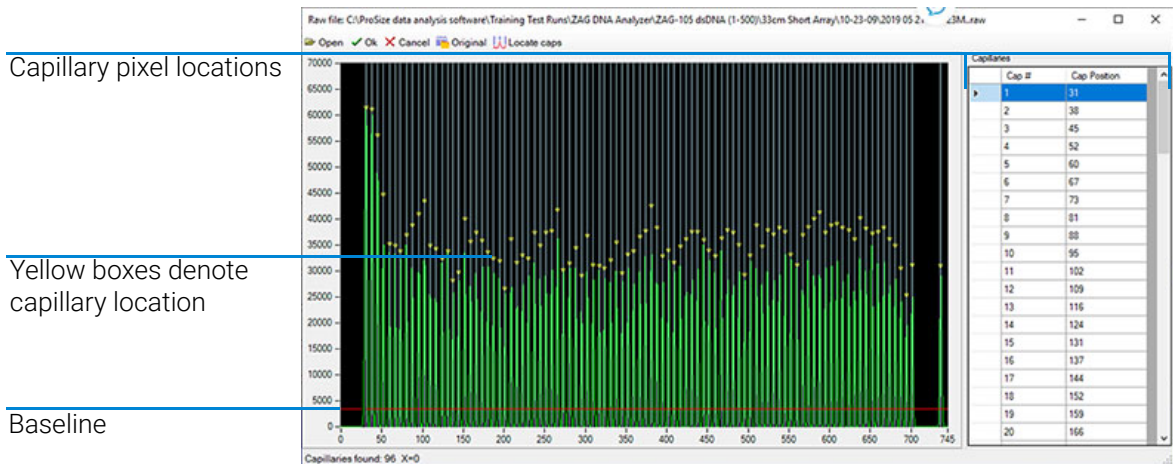

Figure 28 Align from file window for 96-capillary system
- 5 The *Align from File* window opens (Figure 28), allowing the user to align the capillaries from the selected run file. The toolbar of the *Align from File* window is discussed in Table 8.
6 Left-click on the red baseline and draw it upwards from the bottom of the graph but not above the top of capillary peaks, as shown in **Figure 28**.